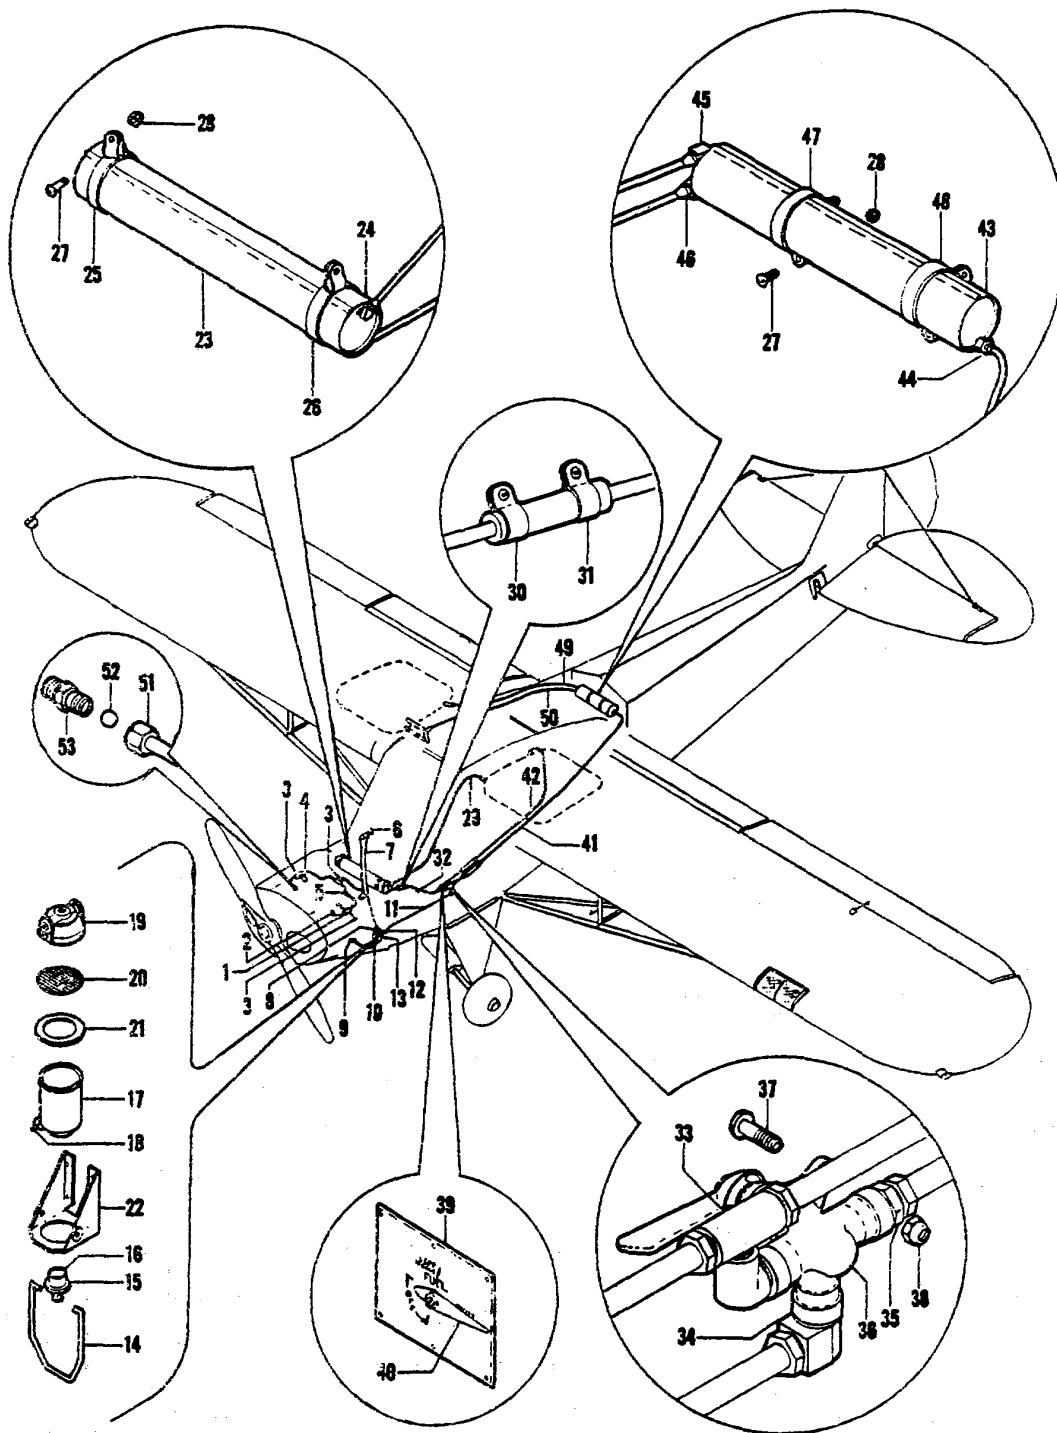

Figure 5-6. Fuel System Installation
5-27. DESCRIPTION. (See figures 5-6 and 5-7.) The fuel system consists of a 37 gallon gravity flow fuel system incorporating two 18 gallon wing tanks and two one-half gallon header tanks. A fuel shut-off valve is adjacent to the front seat. A fuel strainer equipped with a quick drain is mounted on the engine side of the firewall. The wing tanks incorporate visual type fuel gages extending into the cabin from each wing root. Since the fuel system has several components, servicing instructions will be provided separately for each individual component.
5-28. REMOVAL OF FUEL TANKS. (See figures 5-6, 2-1 and 5-8.)
5-31. INSTALLATION OF FUEL TANKS. (See figures 5-6, 2-1, and 5-8.)
5-32. **SERVICING THE FUEL HEADER TANKS.** (See figure 5-6.) Examine the fuel header tanks (43, figure 5-6) and fittings for leaks, damage and insecurity of mounting. If a tank leaks or is severely dented or otherwise damaged, drain the fuel system and replace the tank with a new one.
← Legend for Figure 5-6
5-35. SERVICING THE FUEL STRAINER. (See figure 5-6.)
- b. Drain the fuel strainer (13, figure 5-6) by opening drain valve (18). Disassemble bale wire (14), bale nut (15), and bowl seat (16) from the fuel strainer bowl (17). Lift fuel strainer bowl from bracket (22). Remove cover (19), screen (20), and gasket (21) from the fuel strainer bowl. Clean all parts of the fuel strainer in gasoline. Replace damaged parts with new ones.